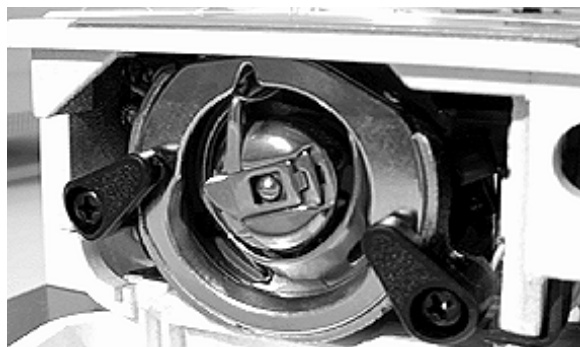

Figure 6-1
3. Open the two hook race body cover holders by rotating the left one counterclockwise and the right one clockwise, as shown in Figure 6-1.